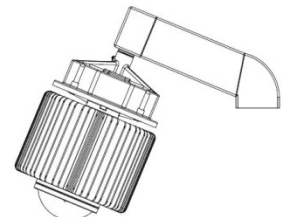

Fig 3
**UNIVERSAL MOUNTING SYSTEM (Fig 3)**